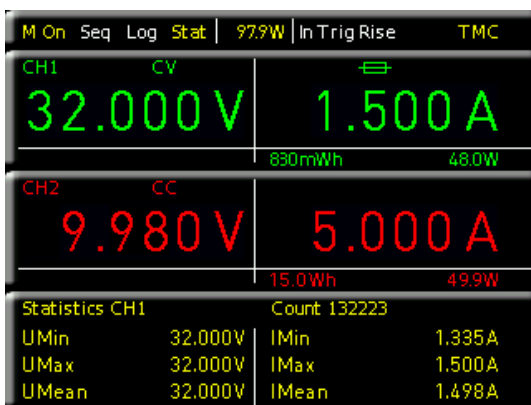

Fig. 5.2: Display values CV/CC R&S®HMC804x
**Fig. 5.2 shows that exceeding the current limit at CH1 leads to automatically having CH2 and CH3 switched off.**